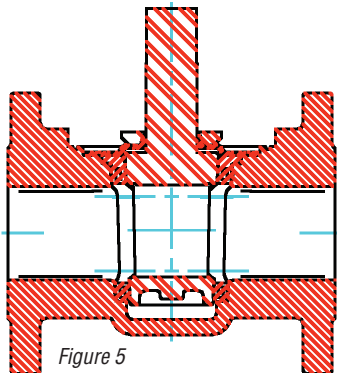

Figure 5
**NOTE:** Part number reference is shown in Figure 5.